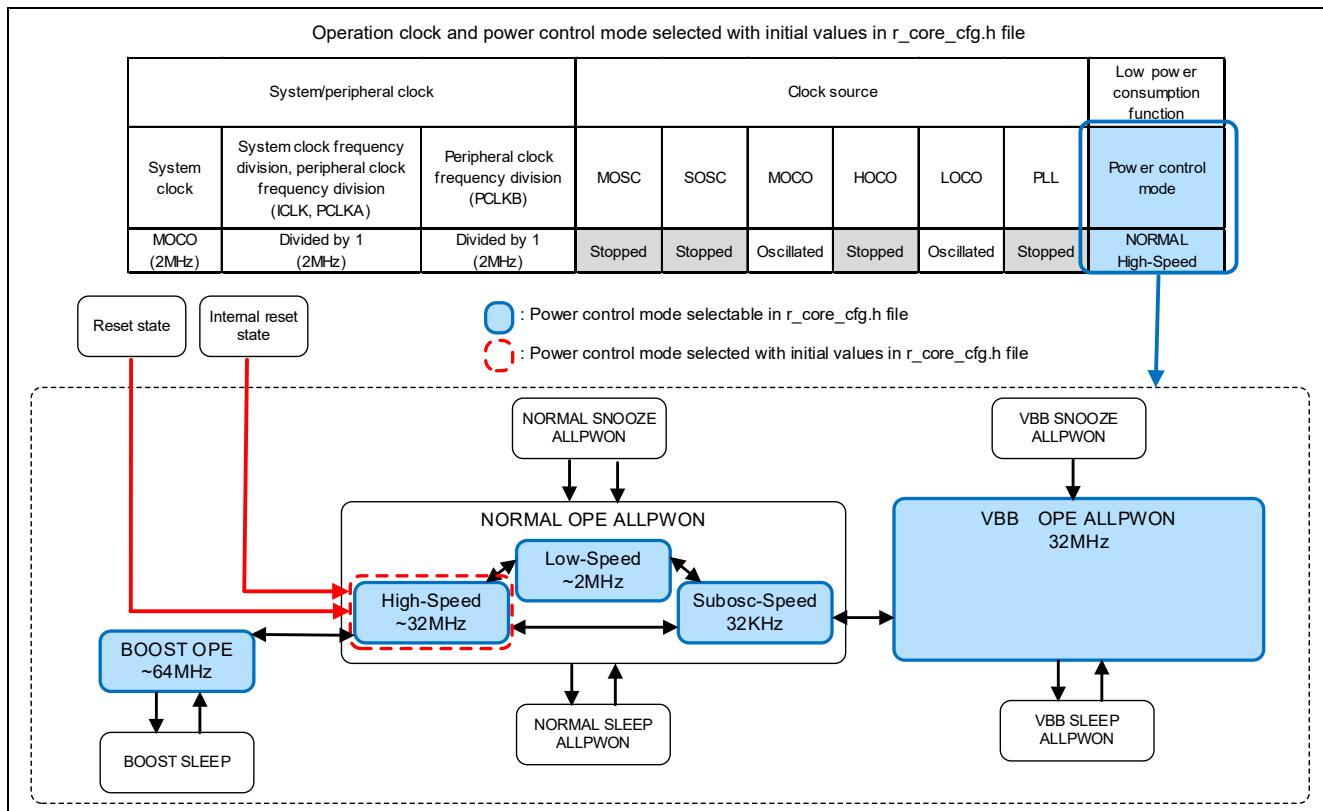
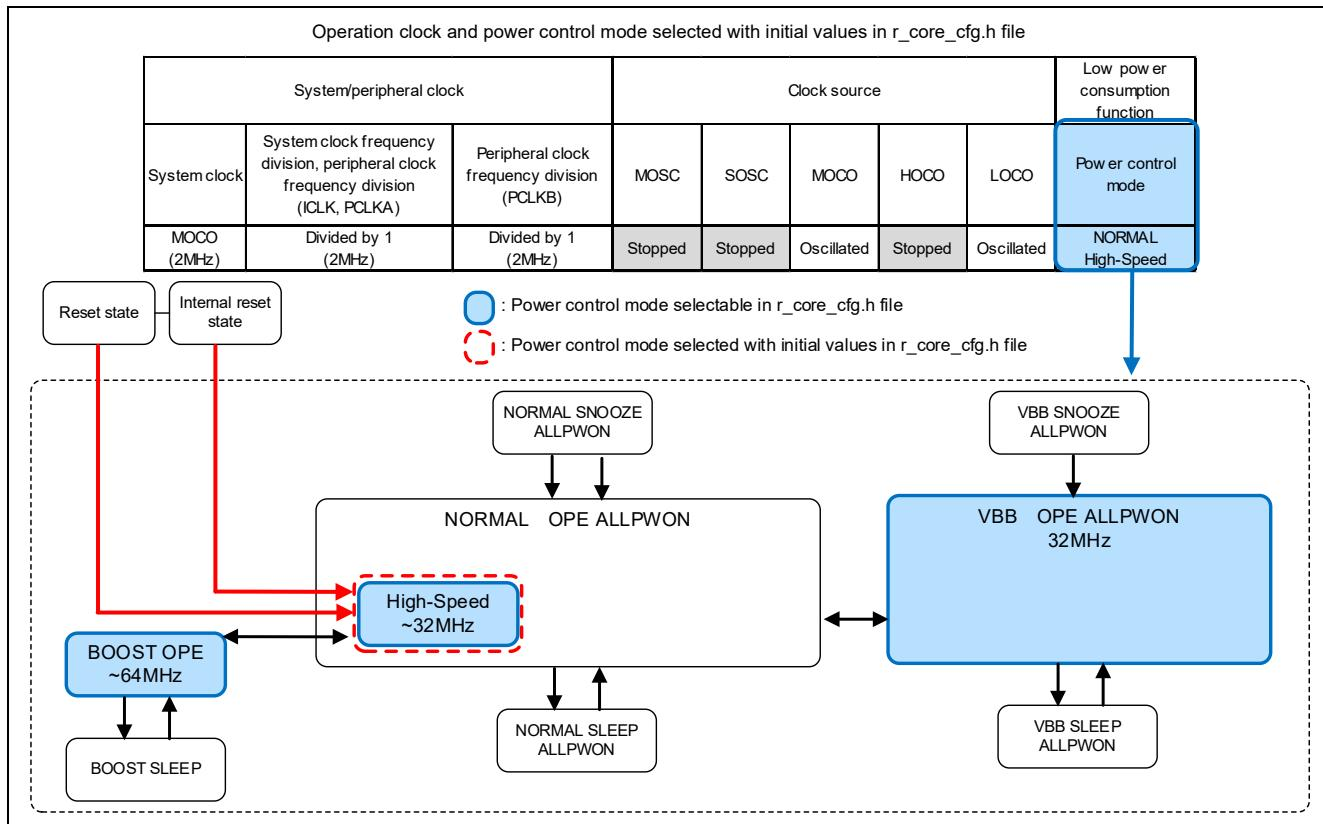

Figure 6-3 Clock and Power Control Modes That Can Be Selected in r\_core\_cfg.h
Figure 6-4 Clock and Power Control Modes That Can Be Selected in r\_core\_cfg.h
- Definition values: For the definition names and values, see section 6.4.1, Clock Definitions. Power control modes that can be selected as the mode on start of operation, and the clock/power control mode state selected by an initial value, appear in Figure 6-3 and Figure 6-4.